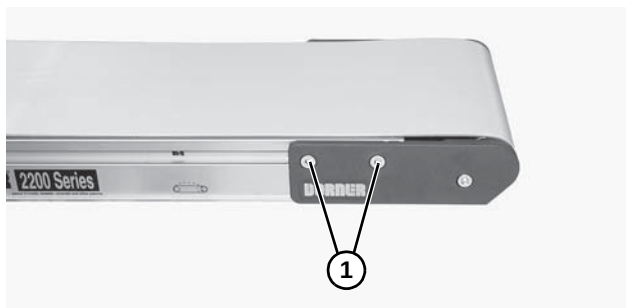

Figure 46
1. On one side of the conveyor, loosen two (2) head plate fastening screws (**Figure 46, item 1**) and remove them.